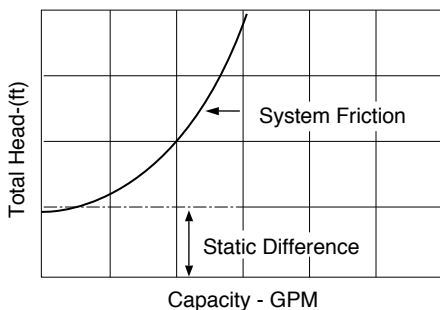

FIGURE 53. System Curve of a Simple Pump System with an Elevation Difference
- Figure 53 and 55 show the system curves that represent the requirement of the system for any flow rate.